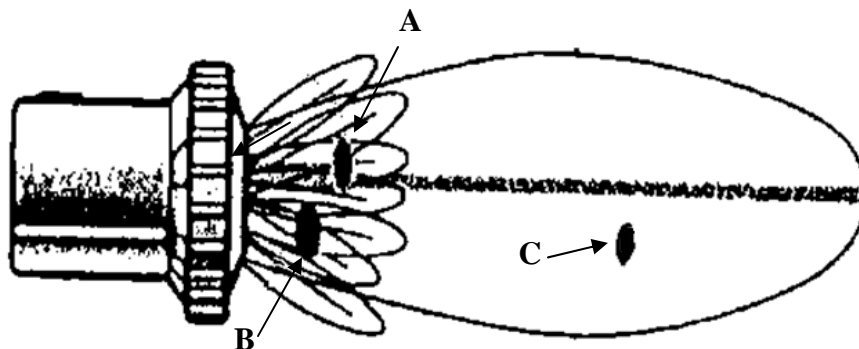

Figure 3: Ultrasonic beam
4. Figure 3 shows sound beam used for ultrasonic testing. The lobes cover three dark defect points (A, B and C).
- [a] Redraw Figure 3 and label the zones.